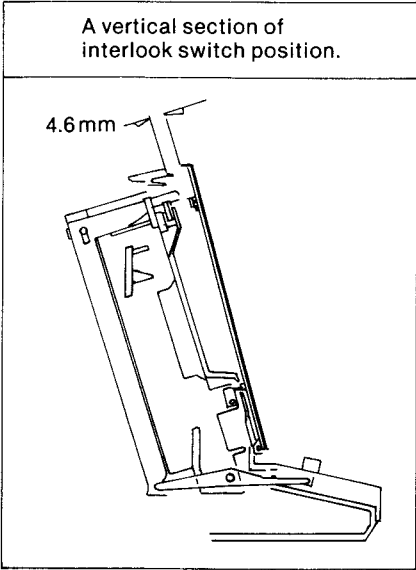

Fig. 2
- (8) In (7) above, close the disc compartment cover until the gap between the cover and front cabinet is 4.6mm. Check to see that the compact disc does not rotate. (see Fig. 2)